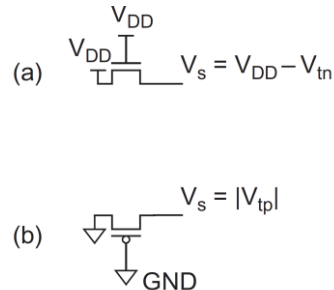

Figure 15: Pass Transistor threshold drops
- ✓ The nMOS transistors pass 0's well but 1's poorly. Figure 15(a), shows an nMOS transistor with the gate and drain tied to  $V_{DD}$ .
- ✓ Hence, pMOS transistors only pull down to a threshold above GND, as shown in Figure 15(b).